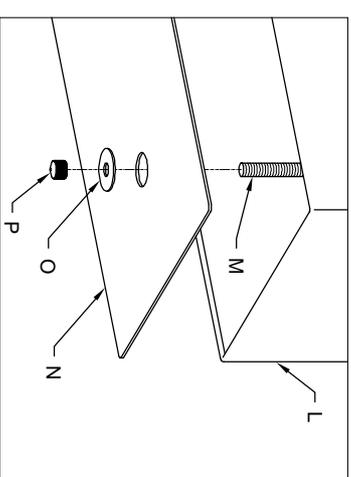

Fig. 3
- Avvitare i particolari (P) e le rondelle (O) al tubo filettato (M) (Fig. 3).
- SOSPENSIONE (120)**
- Fix the Plexiglas panel to the threaded tubes (M) by screwing the details (P) and the washers (O) (Fig. 3).
- SWINGING LAMP (120)**